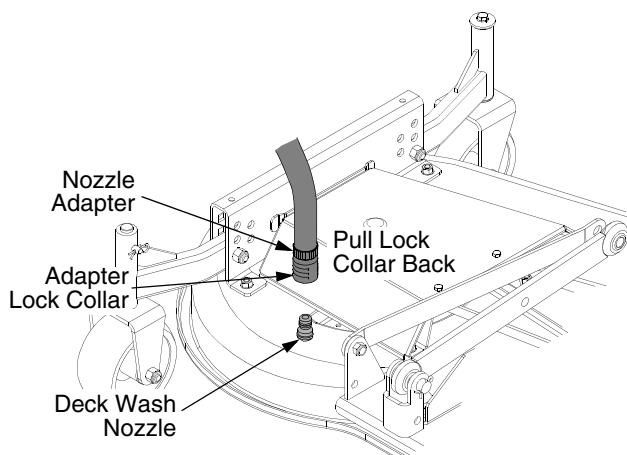

Figure 63
- Pull back the lock collar of the nozzle adapter and push the adapter onto the deck wash nozzle at the left end of the mower deck. Release the lock collar to lock the adapter on the nozzle. See Figure 63.